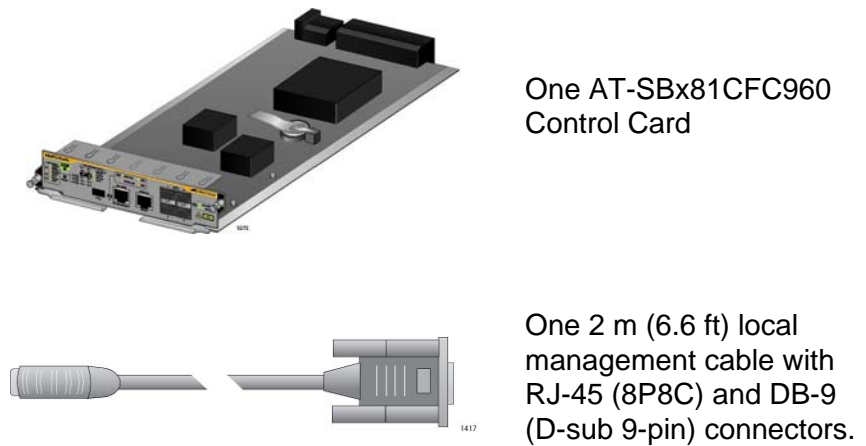

Figure 64. Items Included with the AT-SBx81CFC960 Controller Card
2. Remove the new AT-SBx81CFC960 Controller Fabric Card from the shipping package and verify the package contents, listed in Figure 64 on page 129.